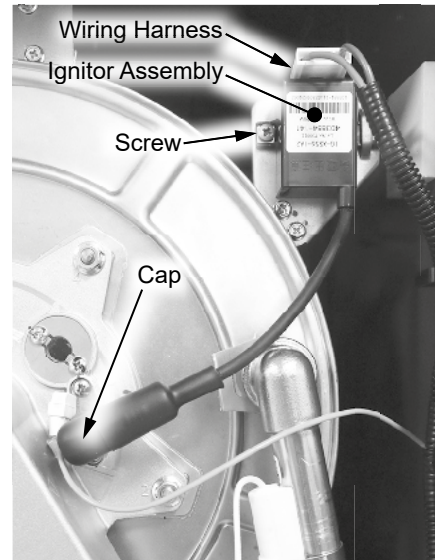

Figure 1 - Ignitor assembly location
- 4** Locate the ignitor assembly on upper right side of the water heater. See Figure 1.
- 5** Disconnect the cap by holding cap close to base as to not damage the high voltage wire from the ignitor rod. See Figure 1.
- 6** Disconnect the wiring harness from the ignitor assembly. See Figure 1.
- 7** Remove and keep the screw securing the ignitor assembly to the water heater. See Figure 1.